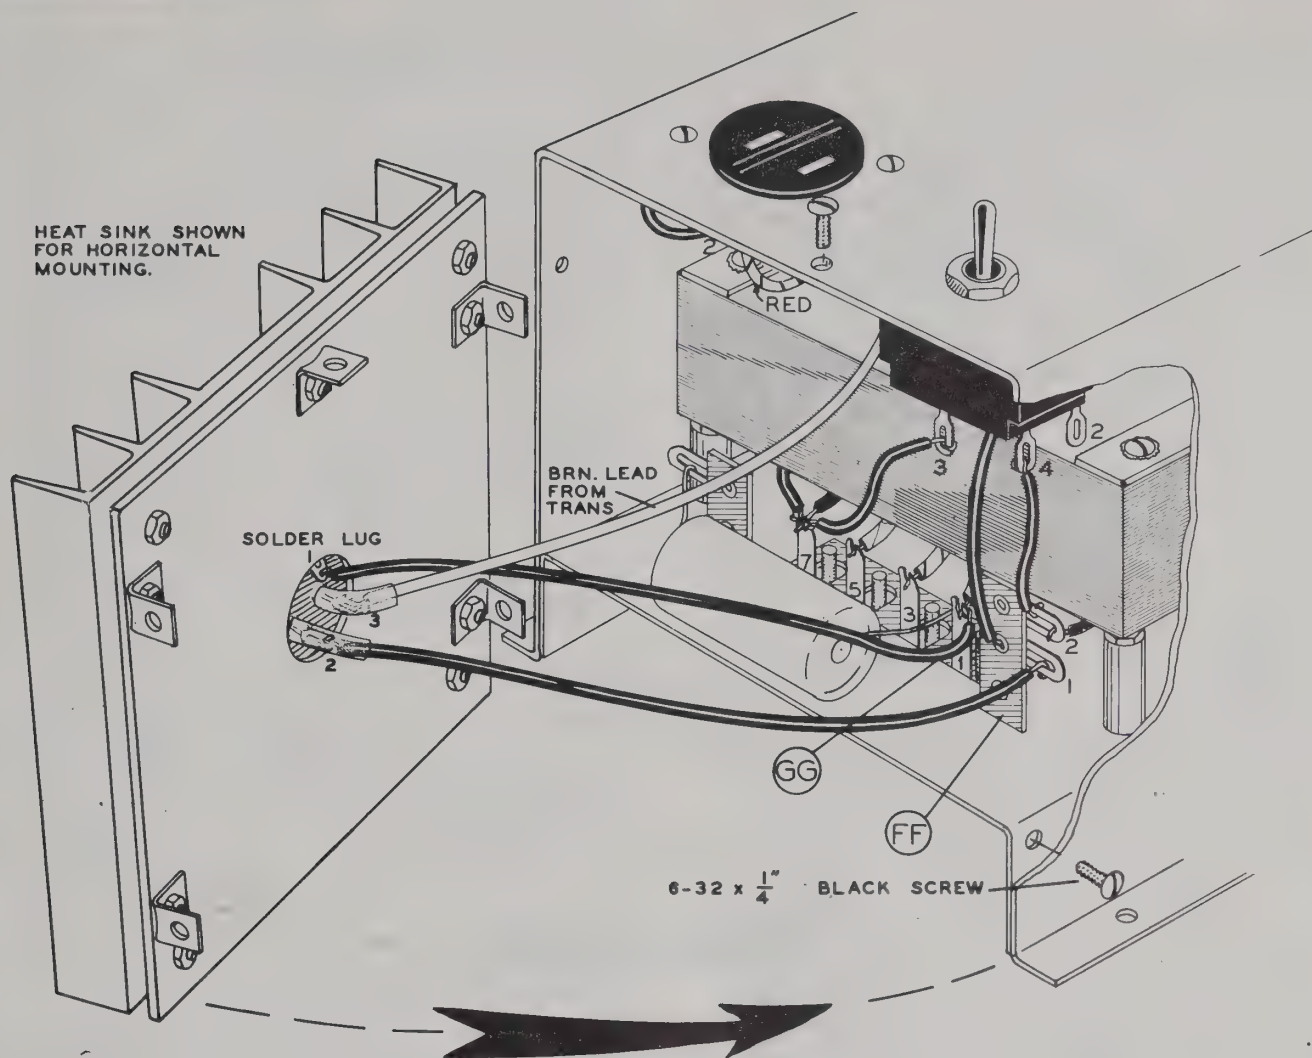

Figure 15
Refer to Figure 15 for the following steps.
- (✓) Screw in the five 6-32 x 1/4" black screws that mount the heat sink assembly to the chassis. Tighten securely. See Figure 15.